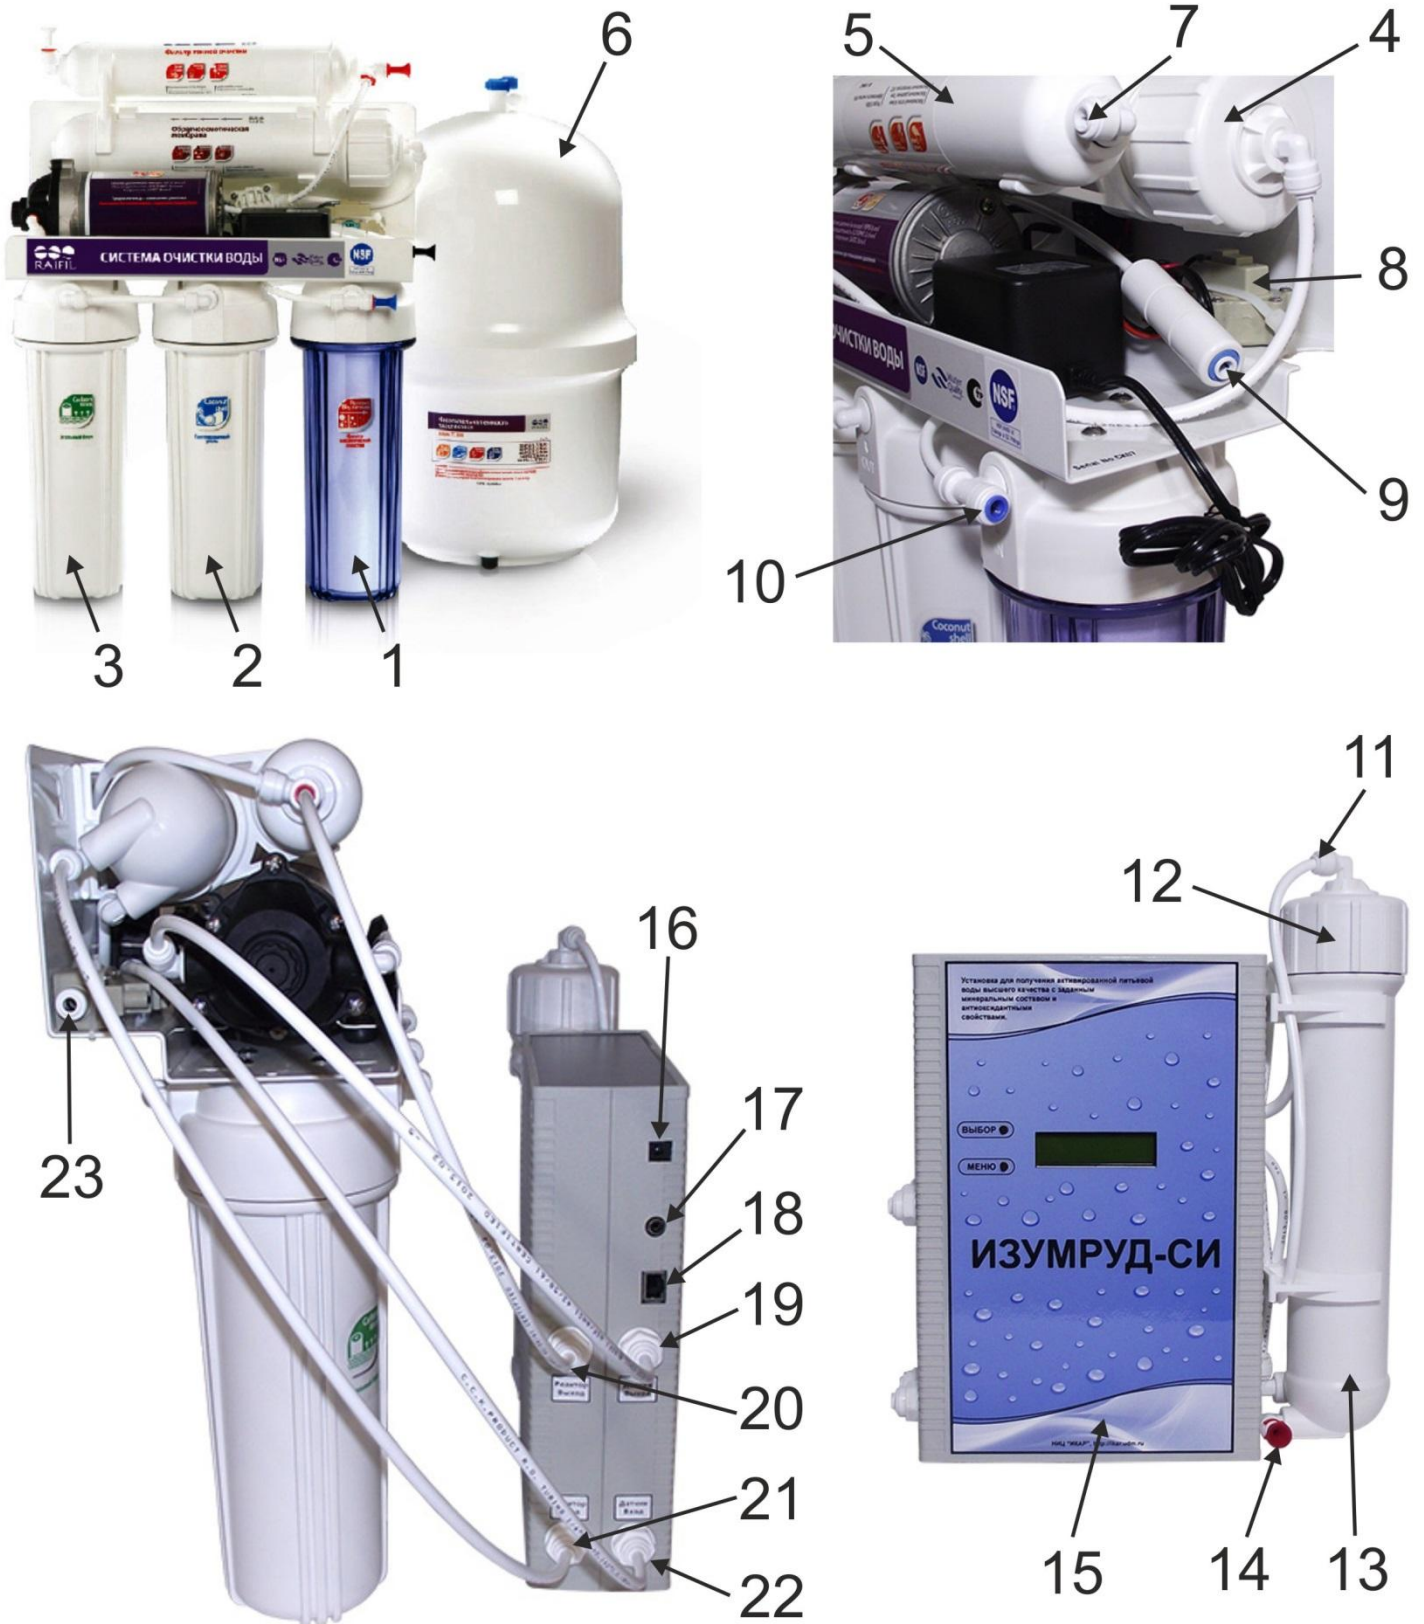

Fig.3. Appearance of "Izumrud-SI" device main components (mod. 01os-50):
Reverse osmosis system unit represents 5 staged filtration system which principle of operation is based on reverse osmosis technology. Source main water first passes through 3 primary filters (fig.3). At first stage primary filter (1) filters mechanical impurities. Second stage filter (2) with activated carbon removes odor and residual chlorine from water. Third stage filter with carbon cartridge (3) removes organochloride substances, bad tastes and odors. After passing through three stages filtered water comes into fourth stage - reverse osmosis filter (4). Diameter of filter membrane does not exceed 0.0001 microns and it infiltrates only water molecules and dissolved oxygen.
Enables changing the type of used accessory (connected to connector fig.3. pos.18).